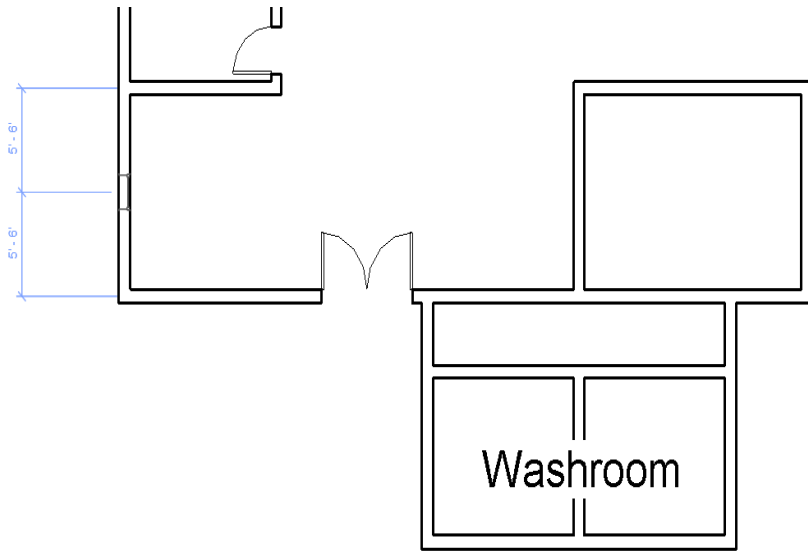

Figure 3-82 Adding the Window at the Reception area
- f. Place the windows at the exact location as per the given dimensions, refer to Figures 3-82 through 3-86.
4. Move the cursor close to the exterior wall of the reception to display the window symbol, as shown in Figure 3-82. Add the window by clicking on the inner face of the exterior wall; the window is created at the specified location.